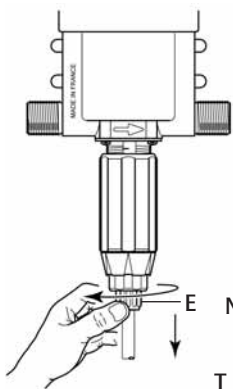
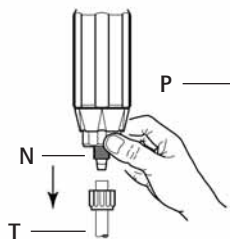

Fig. 15
Fig. 16
- Unscrew the nut (Fig. 15-E) and pull downwards to remove the suction tube (Fig. 16-T).
- Unscrew and remove the nut (Fig. 16-N).